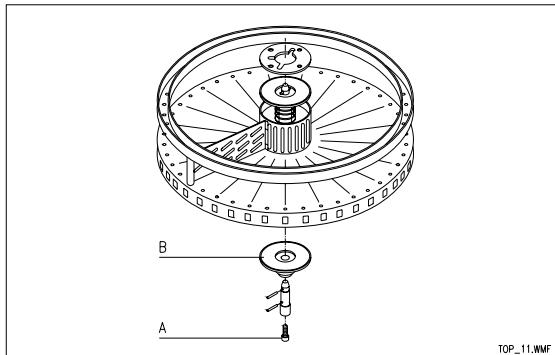

FIG. 11
- c) check that the distance between the first cone in B zone and the upper flange is of 1207 mm; the height can be adjusted by adjusting screw A FIG. 11.